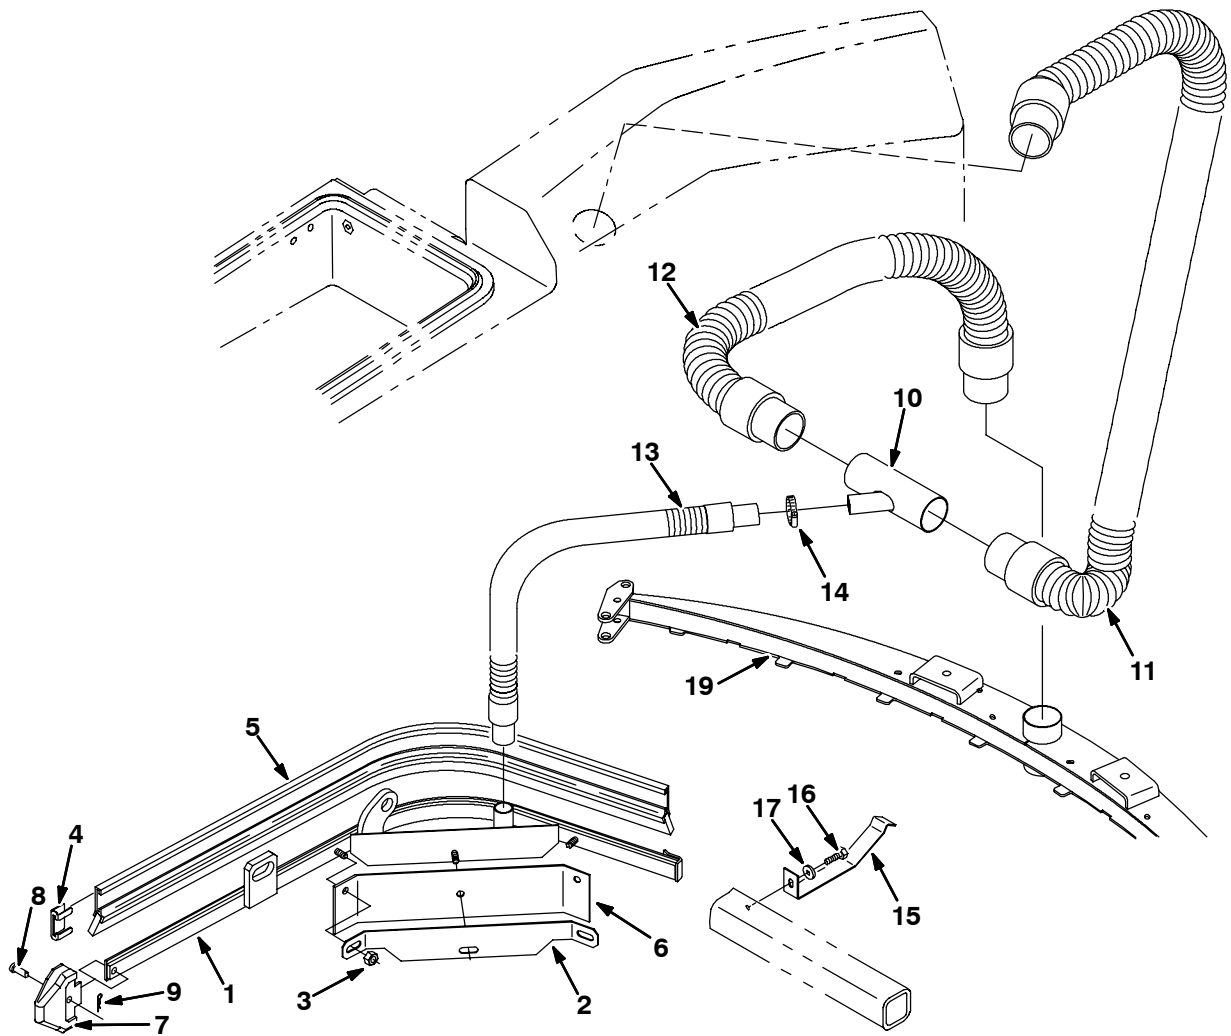

FIG. 1 - Recovery Tank Vac Hose Assembly, Vac Side Squeegee
12. Orient the vacuum hose tube weldment (10) so the small 1" opening points to the front right corner of the machine. Refer to Fig. 1.
13. Connect the shorter 26" hose (12) to the opening on the right side of the tube weldment (10). Connect the longer 75" hose (5) to the opening on the left side of the weldment (10). Refer to Fig. 1.
14. Connect the 44" hose (13) to the smaller opening on the right side of the weldment (10) with a hose clamp (14). Refer to Fig. 1.
15. Orient the new vacuum hose assembly under the machine so the 44" hose (13) points towards the front right corner of the machine (towards the operator compartment).
16. Route the 75" hose (5) up through the frame and to the recovery tank. Replace the recovery tank hose retainer bracket. Secure the hose with wire ties (18). Refer to Fig. 1.
17. Route the 26" hose (12) over the top of the squeegee lift actuator and down between the rubber tipped eye bolt ends on the squeegee lift assembly. Refer to Fig. 1.